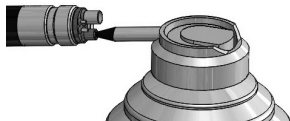

Fig. 4
2. Insert the nozzle into the handpiece drive air tube (Fig. 4) and spray for approximately 3 seconds.